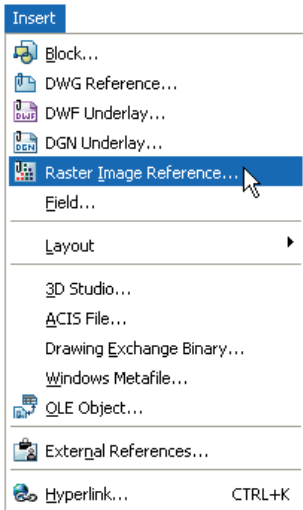
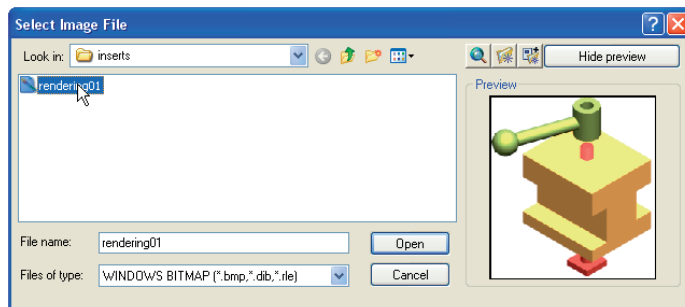

Fig. 10.9 Selecting **Raster Image Reference...** from the **Insert** drop-down menu
Fig. 10.10 The **Select Image File** dialog
1. Click **Raster Image Reference...** from the **Insert** drop-down menu (Fig. 10.9). The **Select Image File** dialog appears (Fig. 10.10). Click the file name of the image to be inserted, in this example **rendering01.bmp**. A preview appears in the **Preview** area of the dialog.
As can be seen from the **Insert** drop-down menu (Fig. 10.9) a variety of different types of raster and other images can be inserted into an AutoCAD drawing. Some examples are: